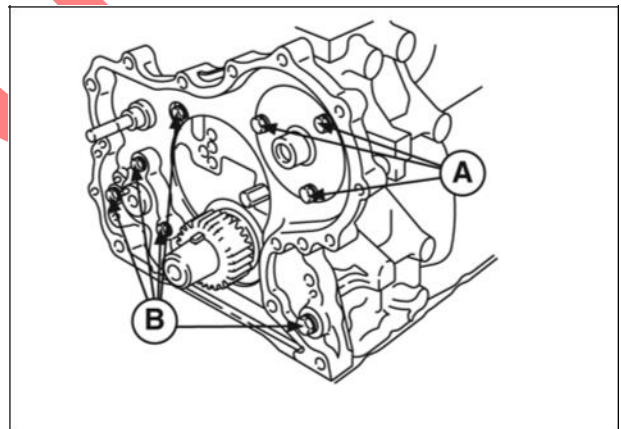

Figure 9
1. Remove three screws (A, Figure 9) and camshaft retainer.
2. Remove remaining five screws (B).